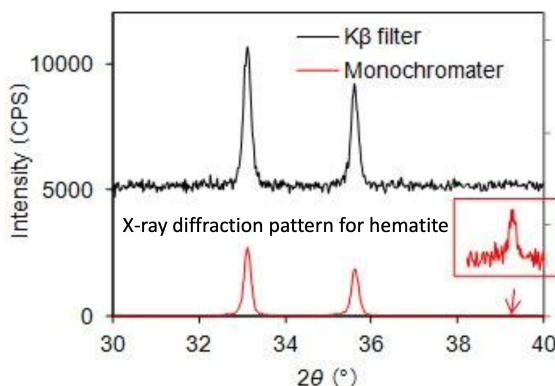

Figure 1.14: Filters vs. monochromators.
- Notice the extra noise in the spectrum taken with a K_β filter in Figure 1.14.